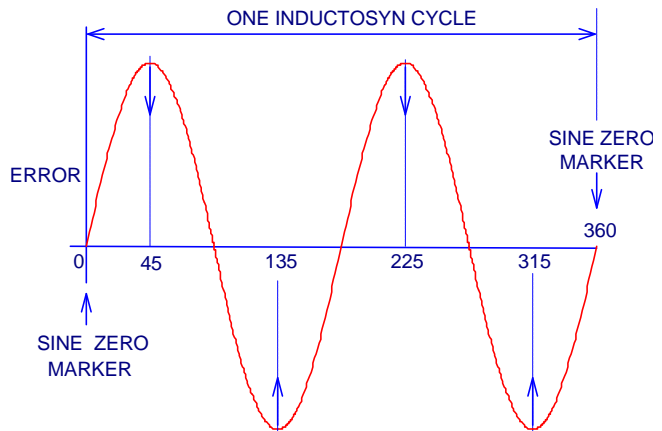

FIGURE 1 BALANCE ERROR
To achieve the expected system accuracy, the total gain of the sine channel must be closely matched to the gain of the cosine channel. The gain balance adjustment on the preamplifier compensates for differences in the resistance of the transducer's sine and cosine patterns and cabling, as well as for the characteristics of the particular preamplifier. Any difference in gain directly affects the position error within the transducer cycle. The type of error produced is shown in figure 1.
At each of these points, record the distance from the starting point both as measured by the Converter Board and by the accuracy standard. The position as indicated by the converter minus the position measured by the accuracy standard is the error. Plot this error as a function of position on graph paper. A curve like Figure 1 with two positive peaks and two negative peaks located at 1/8, 3/8, 5/8, and 7/8 of the cycle shows a gain balance error. The curve might be inverted from
f. Repeat the procedure starting at (c). Note that when the first and third peaks go more negative the second and fourth peaks go more positive. If the curve is not exactly as shown in figure 1, a compromise adjustment should be made to minimize the overall error. When the error measured in Step (d) is within acceptable limits, the gain balance procedure is complete.